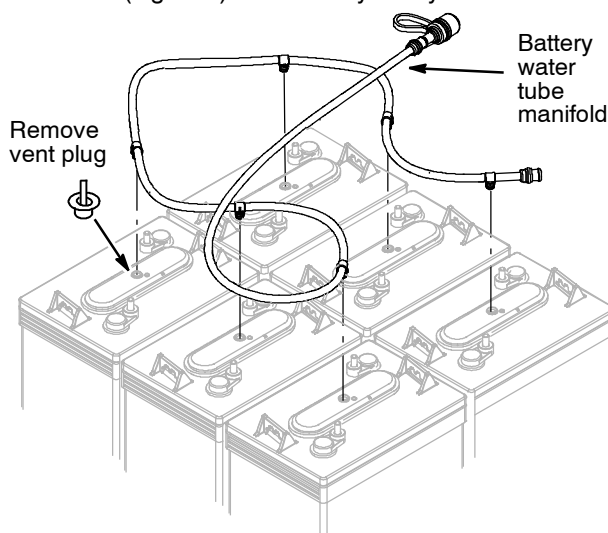

Fig. 3
5. Remove vent plug in each battery fill cap. Snap the battery water tube manifold into each battery fill cap as shown (Figure 3). Press firmly until you hear a click.